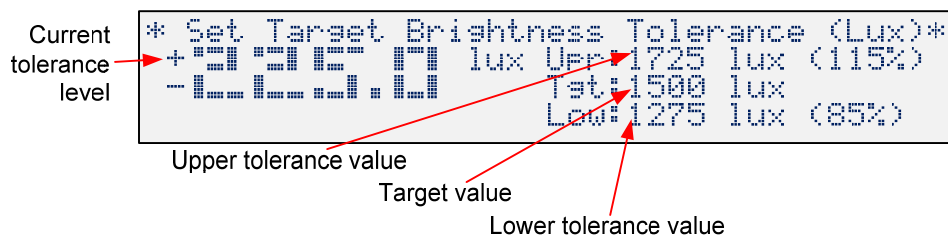

Figure 32. Setting the brightness tolerance in lux screen
To set the brightness target level in lux, go to the Menu→Set Brightness Target Levels→Set Brightness Target Level (lux) menu item. The LCD display should appear similar to Figure 32. Notice that the current tolerance is set as the offset (+/-) from the brightness target level, so that the actual tolerance range is twice the width reported. E.g. if the tolerance level is set to 100 lux, the actual target range is 200 lux wide.
To set the color temperature in Kelvin (K), go to the Menu→Set Color Target Levels→Set Color Tolerance (K) menu item. The LCD display should appear similar to Figure 32. Notice that the color temperature tolerance is set as the offset (+/-) from the color temperature target level, so that the actual tolerance range is twice the width reported. E.g. if the tolerance level is set to 100 K, the actual target range is 200 K wide.